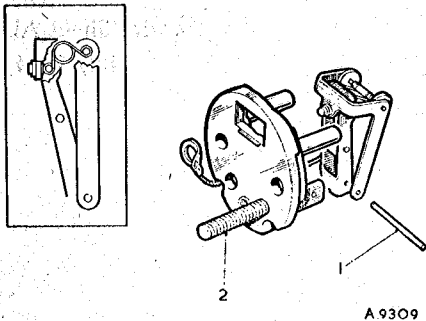

Fig. 3. Fitting the rocker assembly to the pedestal. (Inset) the correct position of the centre toggle spring
1. Invert the pedestal and fit the rocker assembly to it by pushing the steel pin (1) (Fig. 3) through the small holes in the rockers and pedestal struts. Then position the centre toggle so that, with the inner rocker spindle in tension against the rear of the contact points, the centre toggle